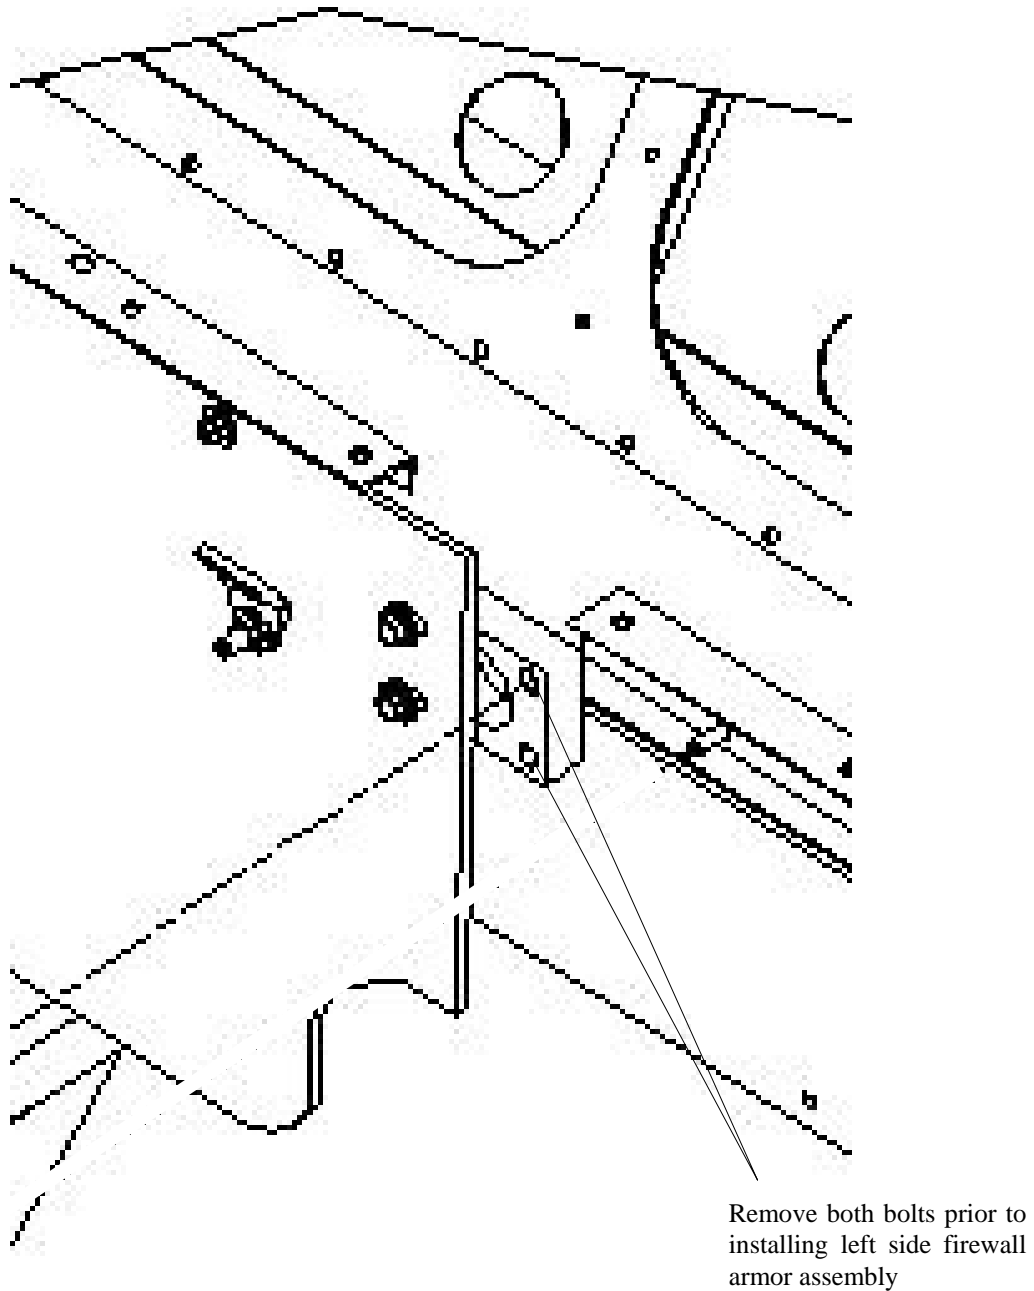

Figure 3-57. Firewall Hood Spacer Bolt Removal.
2. Remove bolts from firewall hood spacer as follows (see Figure 3-57):